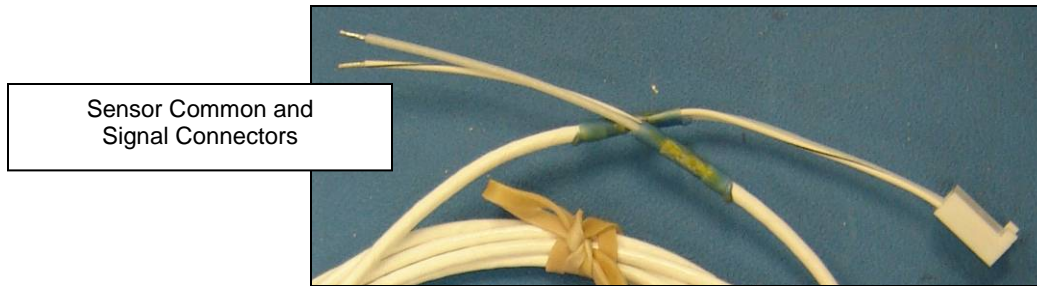

Figure 18: Compact Sensor™ Cable for DIN Rail UV Intensity Monitor™
- Sensor ground wire at terminal 2. Figure 17 shows different Compact Sensor™ wire colors for each monitor. When using an EIT Compact Sensor™ Cable, the ground wire is white with black stripes (See Figure 18).
- Sensor signal wire at terminal 3. Figure 17 shows different Compact Sensor™ wire colors for each monitor. When using an EIT Compact Sensor™ Cable, the signal wire is white (See Figure 18).